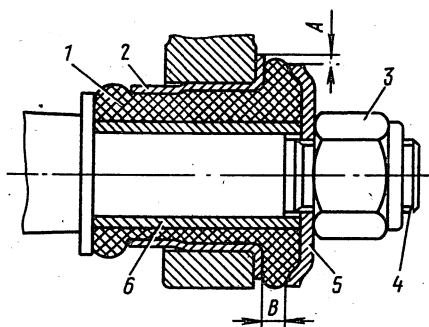

Fig.4-2. Examining the Front Suspension Wishbone Silent Block:
- measure the radial displacement A (Fig. 4-2) of outer bushing 2 relative to inner bushing 6 and distance B between thrust washer 5 and the outer face of outer bushing 2.